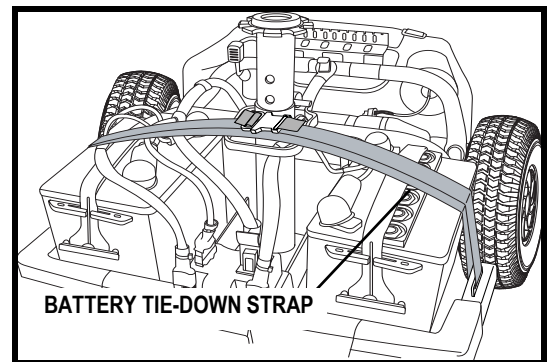

Figure 13C. Battery Tie-down Strap
11. Reconnect the battery tie-down strap, making sure the strap is positioned over the frame release lever to ensure proper securement. See figure 13C.